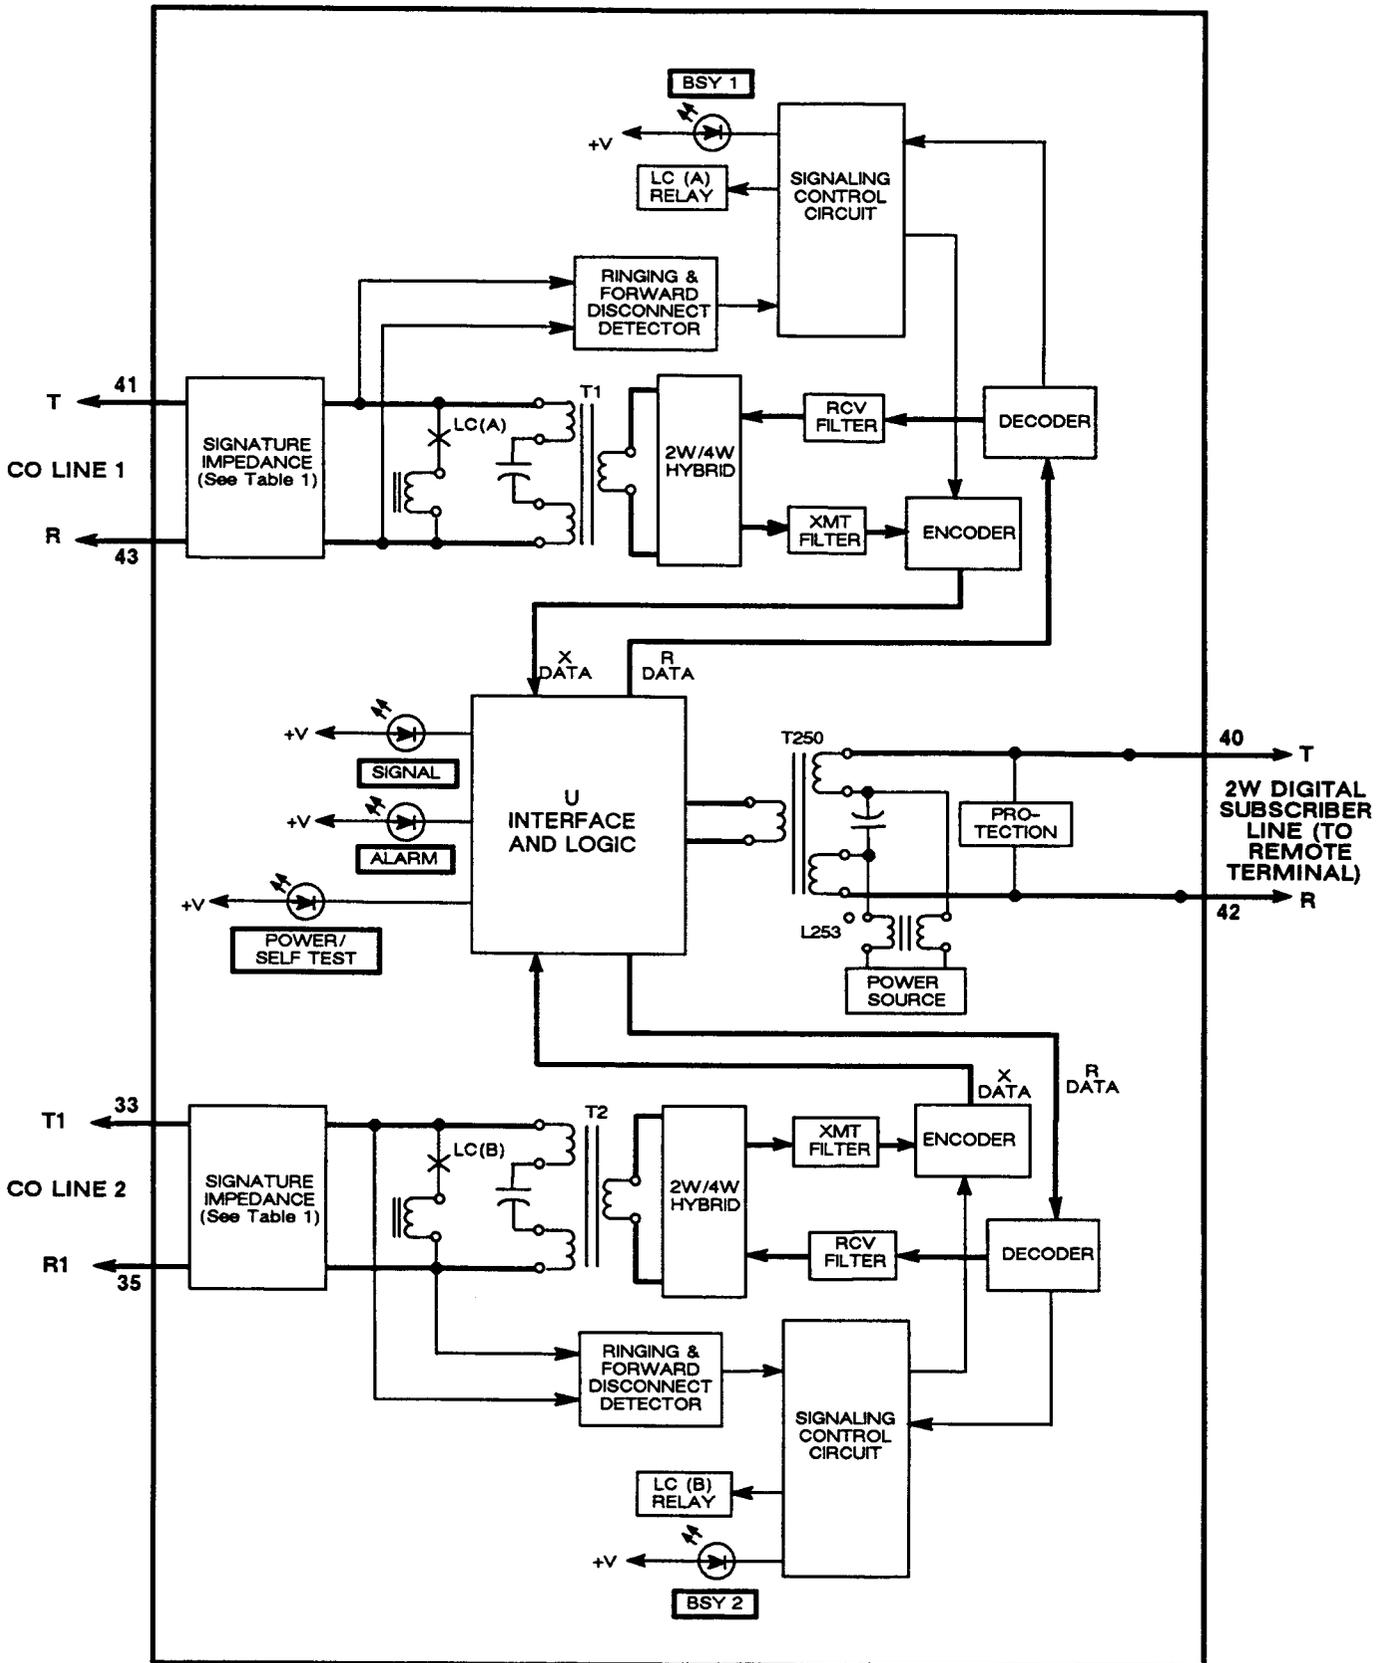

Figure 3. The DDL230 Line Unit Block Diagram
3.01 The Wescom DDL230 Central Office Terminal (COT) Line Unit (LU) contains circuitry to interface two POTS CO lines to a Digital Subscriber Line (DSL). Refer to Figure 3 for a block diagram of the DDL230 COT LU.